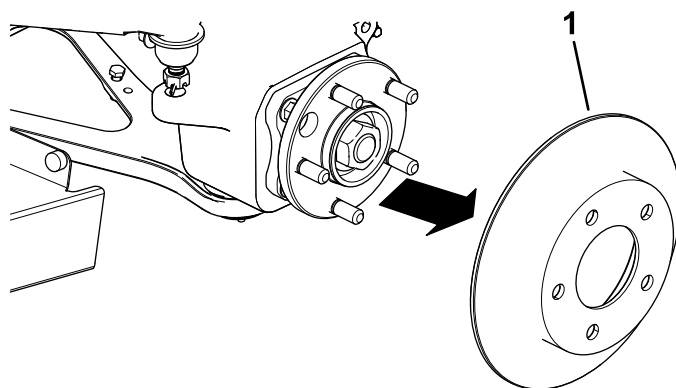

Figure 6
6. Remove the rotor (Figure 6).
4. Install the rotor to the hub (Figure 6).